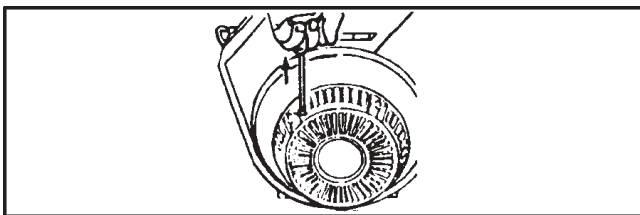

Figure 3-6. Recoil Starter - Vanguard Engine
2. Place the gearshift in the neutral (N) position.
5. Grasp starter grip as illustrated and pull slowly until recoil engages (Figure 3-6).